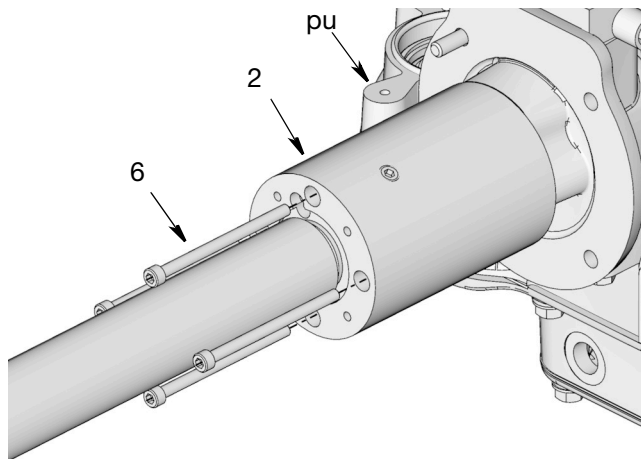

FIG. 48
24. Secure the pump adapter (2) to the pump upper (pu) using screws (6). Use a socket to tighten the screws securely (FIG. 48). Torque to 7 to 9 ft-lb (9 to 12 N•m).